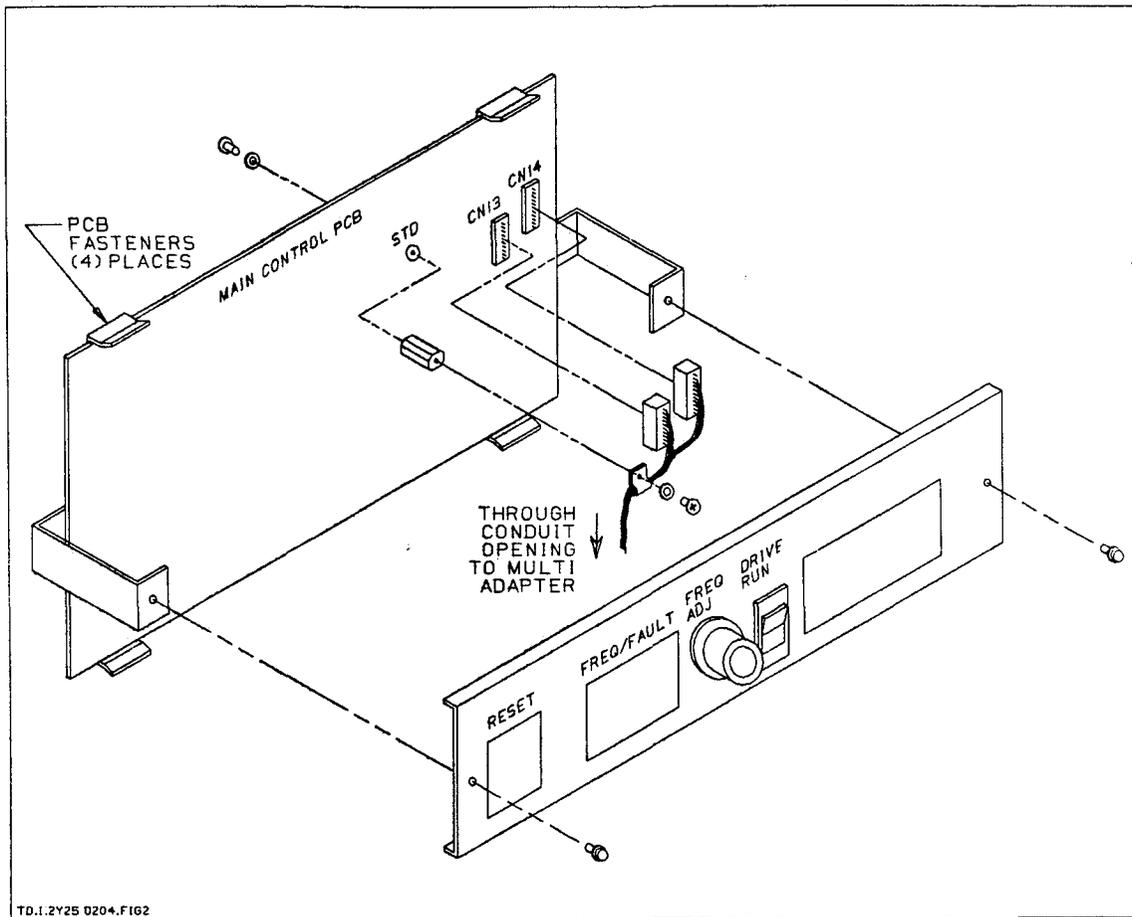

Figure 2
4. See Figure 2. Using a Philips screwdriver, remove and retain the two screws which secure the Operators Control Station (OCS) plate. Leave the wiring between the OCS plate and the Main Control PCB terminal strip intact, and allow the plate to drop below the PCB.
6. See Figure 2. The Main Control PCB is held in place by (4) hinged locking PCB fasteners. Grasp the top of board in a convenient location and release from the top (2) fasteners by gently pulling the board forward while pushing upward on the locking portion of the fasteners.
7. See Figure 2. Install and secure the interconnect harness mounting hardware thru the 0.12 inch diameter hole designated "STD" on the Main Control PCB. Tighten the metal spacer onto the screw. Then snap the Main Control PCB back into place.
8. See Figure 2. Match female connectors CN13 and CN14 of the interconnect harness to male connectors CN13 and CN14 on the Main Control PCB and snap into place. Ensure that all 22 pins engage. Secure the plastic hold down clip on the interconnect harness to the metal spacer.